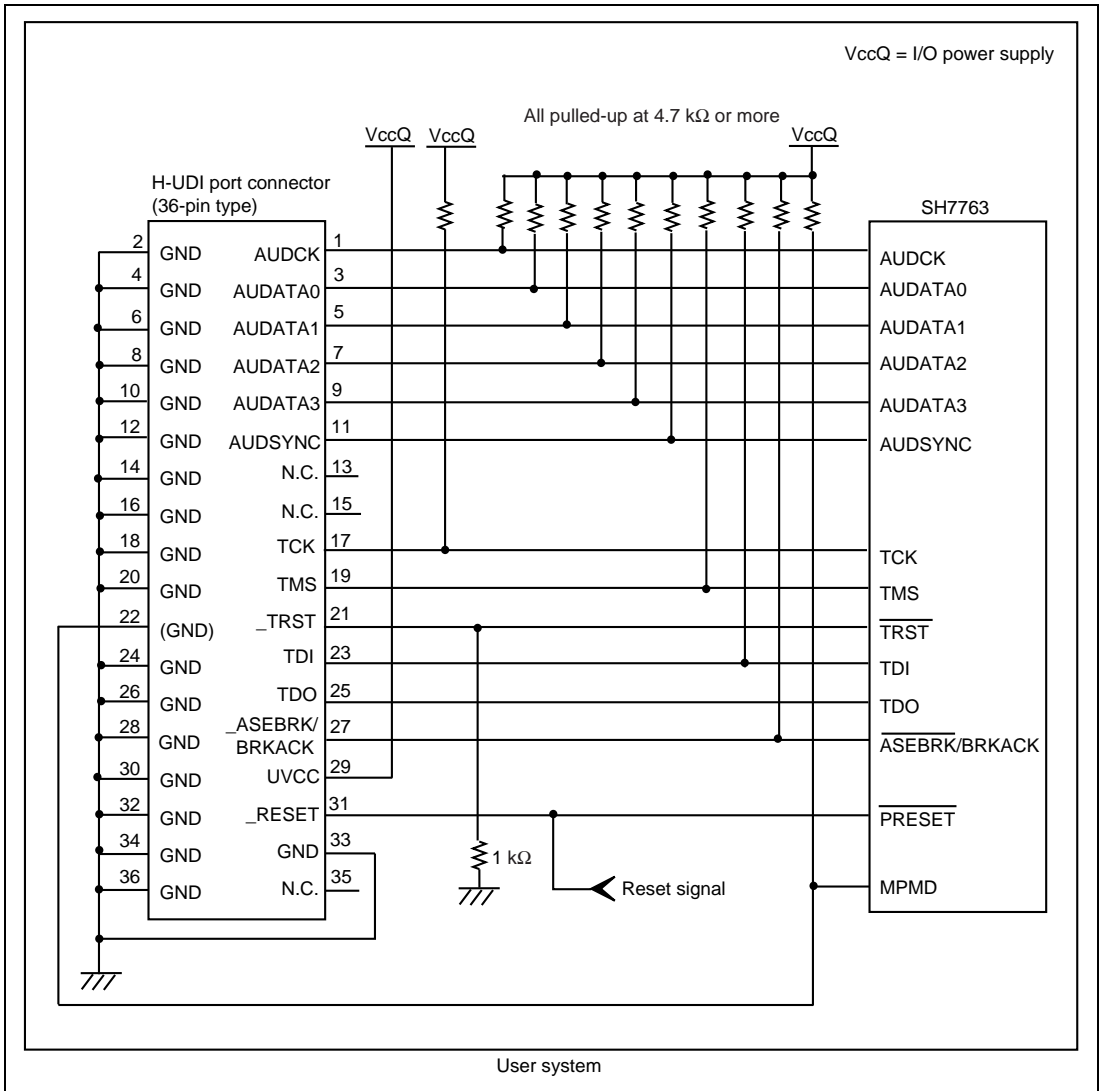

Figure 1.3 Recommended Circuit for Connection between the H-UDI Port Connector and MPU when the Emulator is in Use (36-Pin Type)
Figure 1.3 shows a recommended circuit for connection between the H-UDI and AUD port connectors (36 pins) and the MPU when the emulator is in use.
- (1) When the emulator is used: $MPMD = 0$
- (2) When the emulator is not used: $MPMD = 1$Figure 1.3 shows an example of circuits that allow the MPMD pin to be GND (0) whenever the emulator is connected by using the user system interface cable. When the MPMD pin is changed by switches, etc., ground pin 22. Do not connect this pin to the MPMD pin.
7. The resistance values shown in figure 1.3 are preliminary.
When the circuit is connected as shown in figure 1.3, the switches of the emulator are set as SW2 = 1 and SW3 = 1. For details, refer to section 3.8, Setting the DIP Switches, in the SuperH™ Family E10A-USB Emulator User's Manual.